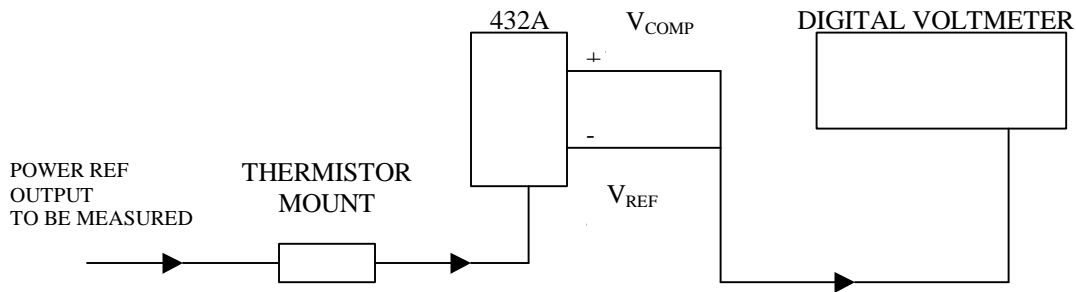

Figure 1-1. Power Reference Level Test Setup
2. Round off the DVM indication to two decimal places and record this value as the internal bridge resistance (R) of the HP 432A (approx. 200Ω).
3. Connect the HP 432A to the Power Ref Output as shown in Figure 1-1.